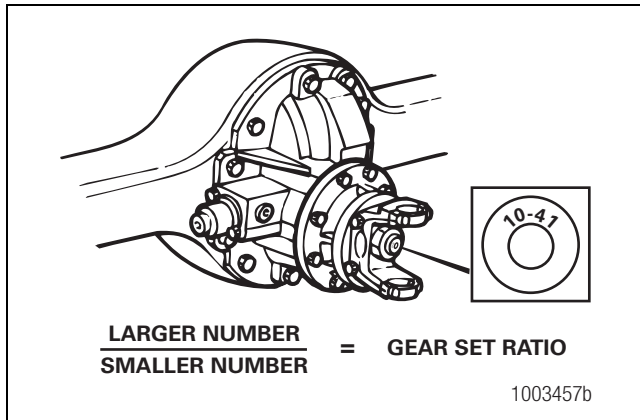

Figure 4.19
2. Identify and record the gear set teeth numbers stamped on the end of the rear axle drive pinion. Figure 4.19.
3. Calculate the hypoid gear set ratio by dividing the larger number by the smaller number. Figure 4.19.